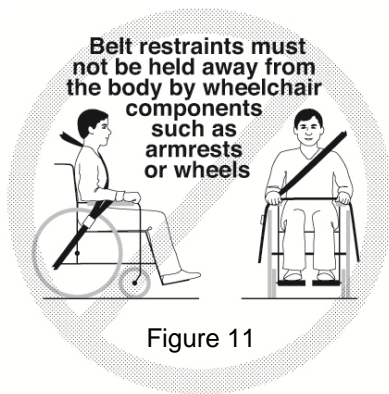

Figure 11
- Lap belts must always lie against the bony structure of the wheelchair occupant's body and must never infringe on any component of the wheelchair such as armrests, panels, wheels, frames, etc. (Figure 11)